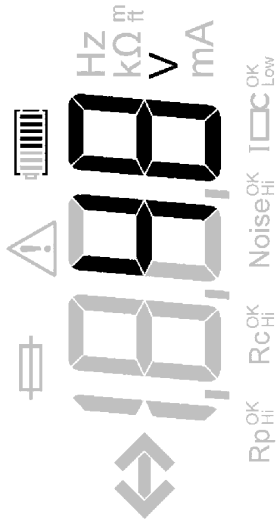

Figure 3: Ground noise voltage reading.
3. The ground noise voltage reading will be displayed on the LCD display as shown in Figure 3.